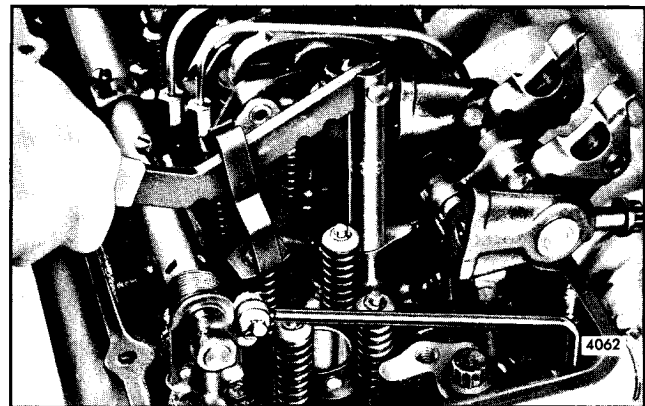

Fig. 2 - Removing Valve Spring using Tool J 7455
6. Thread the valve spring compressor adaptor tool J 7455-4 into one of the rocker arm bracket bolt holes in the cylinder head (Fig. 2). Then, compress the spring and remove the two-piece valve lock.